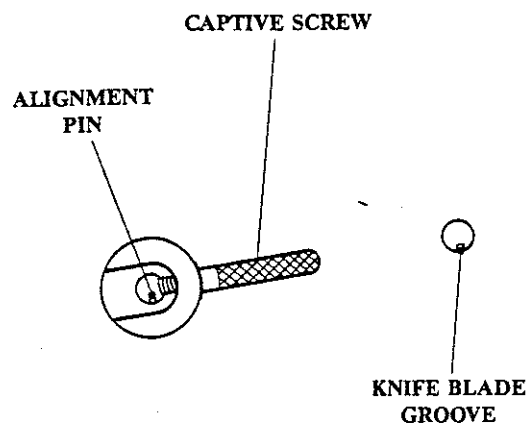

FIGURE 1-4. INSTALLING THE BLADE INTO THE KNIFE HOLDER
1. As shown in Figure 1-4, the knife holder has an alignment pin inside its center shaft and the knife blade has a groove on one side. Insert the knife blade into the center shaft so that the groove on the blade aligns with the pin.